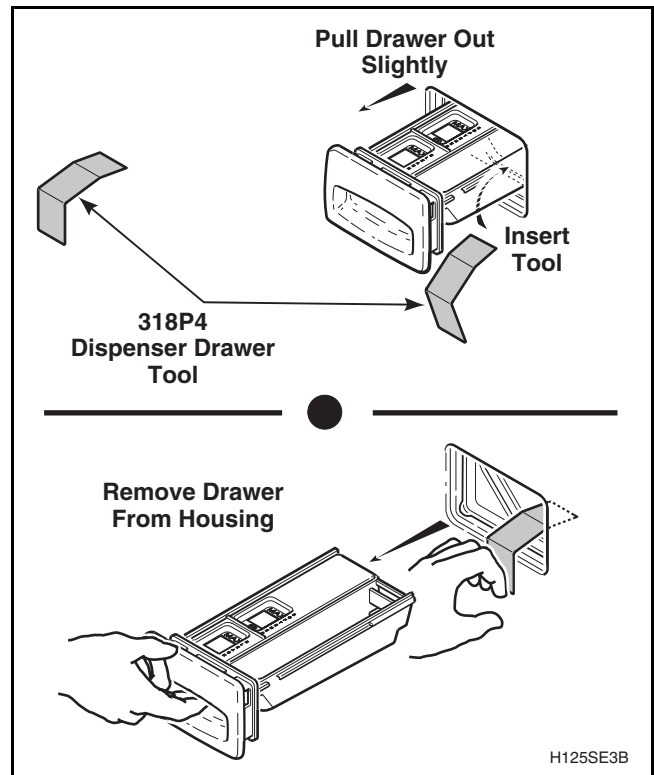

Figure 9
- b. Using the special tool, No. 318P4, remove dispenser drawer. Refer to *Figure 9*.
- (2) Using the special tool, No. 318P4, remove dispenser drawer. Refer to *Figure 9*.